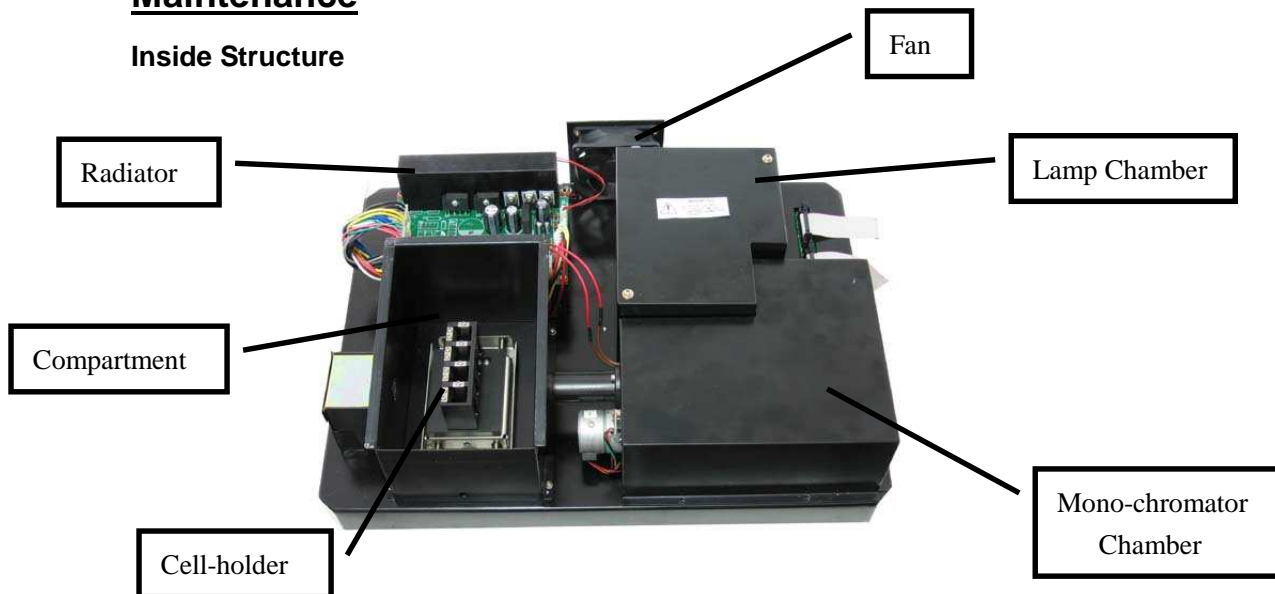

Fig.4-1 Inside Planform
5. Unscrew the two screws from the **Lamp Chamber** (Fig.4-1) and remove its cover. (**Caution: The cover may be HOT, be sure to wear gloves when act**)